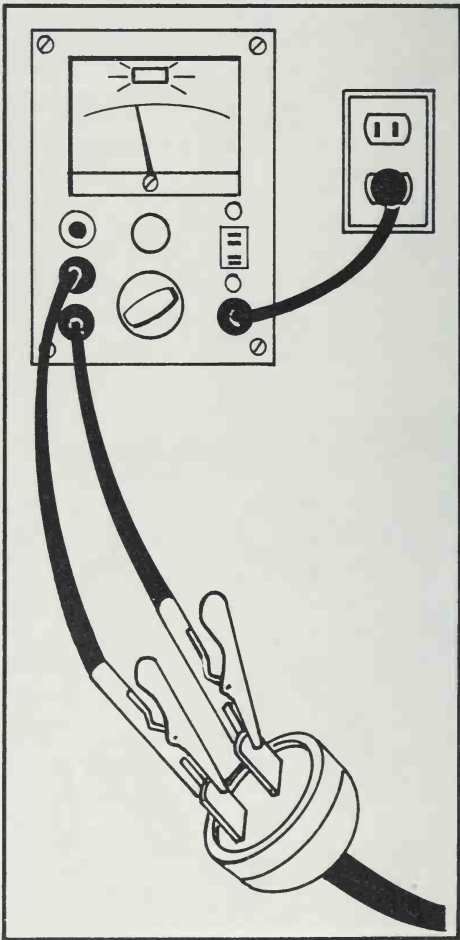

Figure 10. Some continuity testers operate on household current, but *never* plug appliance into wall during a continuity test.
1. During a continuity test, the appliance is *never, never, never* plugged into the wall outlet. The energy for the test comes from the continuity tester itself (Figure 10).